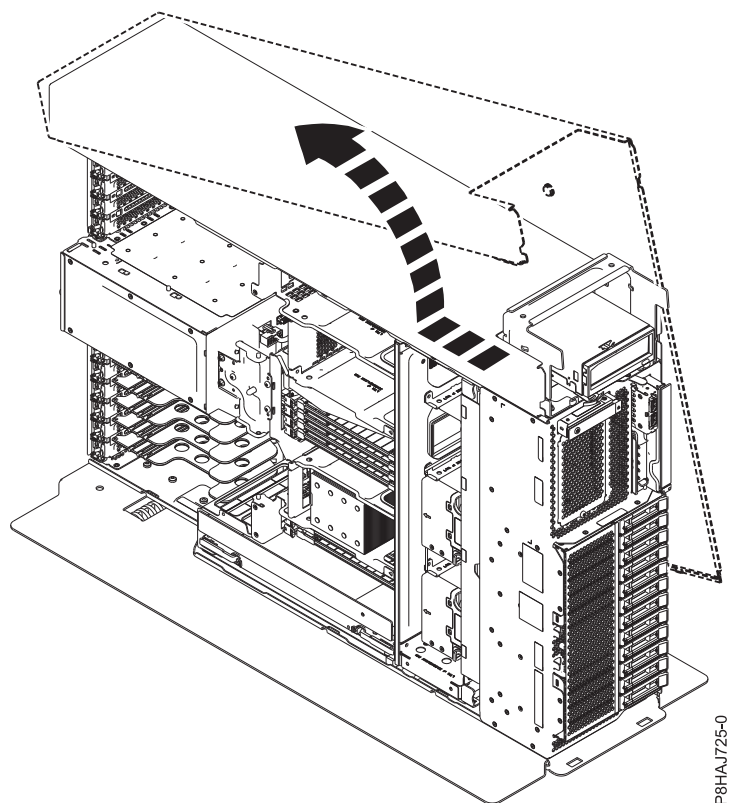

Figure 18. Removing the 8286-41A side cover
5. Slide the side cover off of the system in the direction that is shown in Figure 18 on page 36.